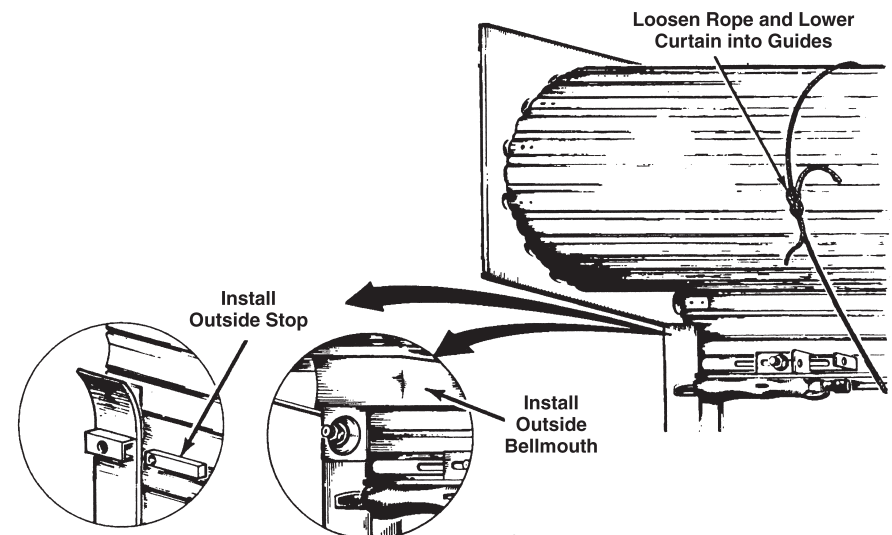

Figure 39
Install inside bellmouths and attach locking pliers approximately 4" below entrance to both LH and RH guides, as shown in Figure 39.
- Install outside stops. See Figure 39 for flared guides and for guides with bellmouths.